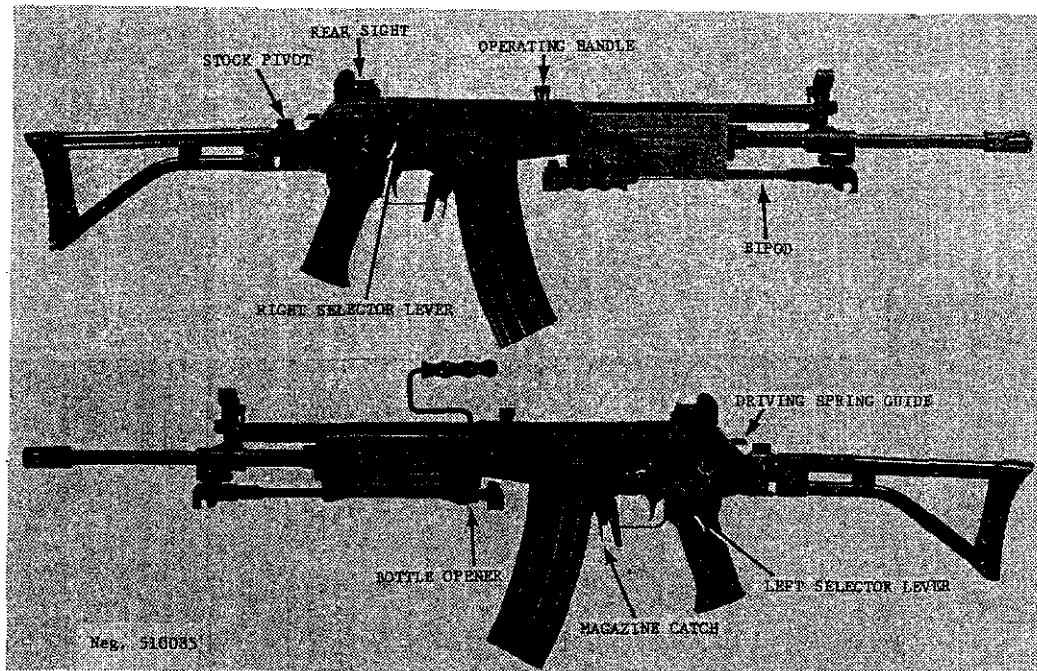
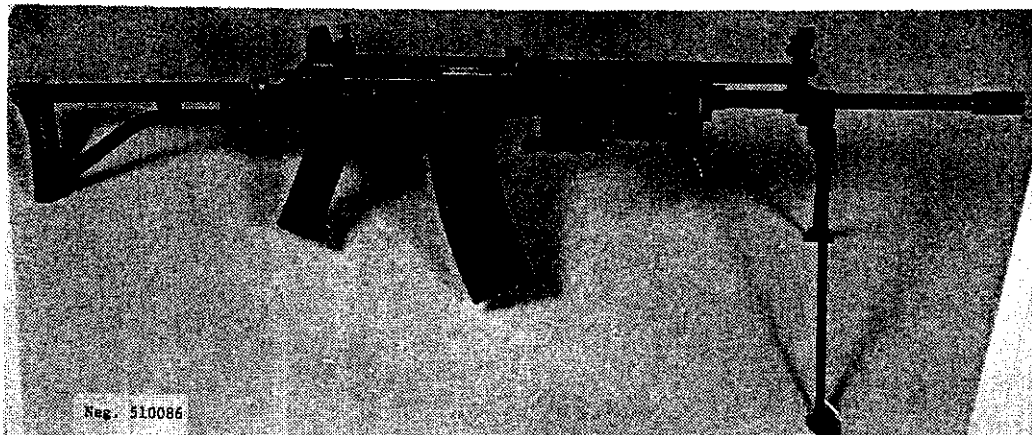

Figure 86. Israeli Galil rifle.
Figure 87. Galil on bipod.
a. The 5.56-mm Galil rifle (fig 86) is a standard Israeli Army weapon. This rifle's design is based on the Soviet AK-47, with improvements to meet Israeli requirements. The Galil can be identified by its large rectangular forearm, prominent front sight mount and the gas cylinder, unique bent-up operating handle, and permanently attached bipod.
a. Remove the magazine by pressing the magazine catch (fig 86) forward and then rotating the magazine forward, out of the rifle. Place a 5.56x45-mm cartridge on the magazine follower and press the cartridge down until it rolls sideways, under the feed lip. Repeat until the magazine is full.
b. Unfold the stock by pressing down on the stock pivot (fig 86) until the stock can be swung outward. Rotate the stock rearward until it locks in place. The stock is folded by again pressing down on the stock pivot until it unlocks from the receiver; then swing the stock forward until it locks in place.
c. Set the rear sight (fig 86) for range by flipping it forward (300-meter setting) or rearward (500-meter setting). The front sight can be adjusted to zero the rifle. Refer to paragraph 137e for use of night sights.
d. When firing from the prone position, especially at longer ranges, the bipod (fig 87) should be used to steady the rifle. Squeeze the bipod legs together to disengage them from the bottle opener (fig 86), swing them forward, and allow them to spring
e. To load the Galil, insert a loaded magazine into the magazine well so that the lug on the top front of the magazine engages its recess in the well. (This requires that the magazine be canted forward.) Swing the magazine rearward until the magazine catch (fig 89) snaps into place. Move the selector from safe, if necessary, by pressing the right selector lever (fig 86) down or the
left selector lever (fig 86) rearward. Pull the operating handle (fig 86) fully rearward and release it. CAUTION: The Galil is now loaded and ready to fire! If the rifle is not to be immediately fired, move the right-hand selector up, or the left-hand selector forward, to render the rifle safe.
a. Clear the rifle (para 134h), but do not place the selector on safe or insert the magazine. Press the driving spring guide (fig 86) inward as far as possible, and, while holding it in, pull up the rear end of the receiver cover to disengage it from the receiver. Remove the receiver cover. Press the driving spring guide far enough forward to disengage it from its seat in the receiver. Remove the driving spring assembly.